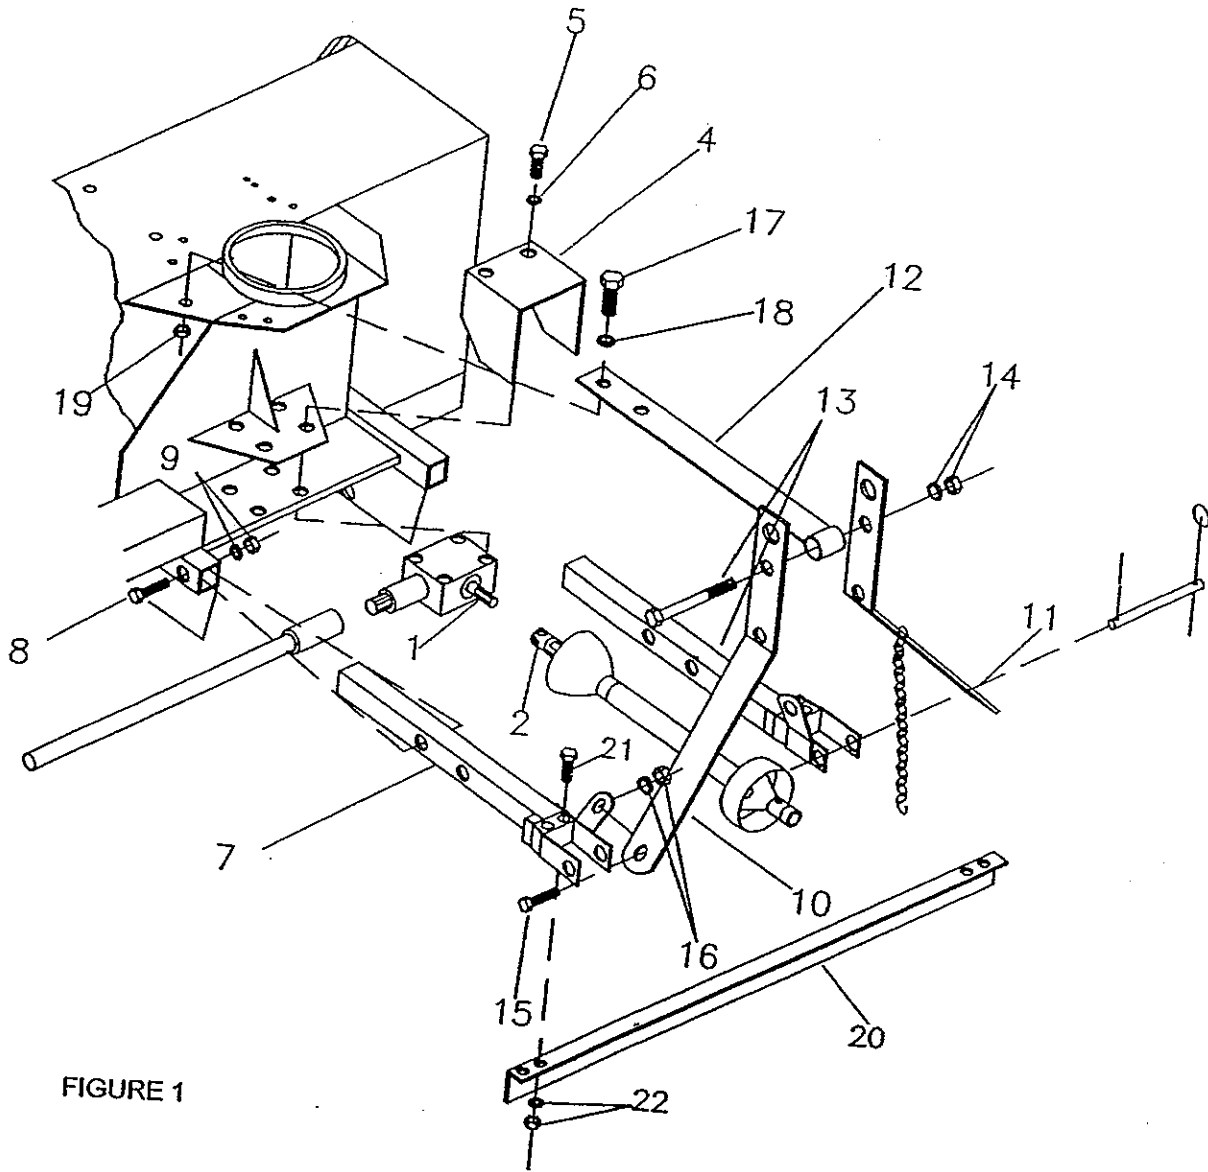

FIGURE 1
1. Remove paint from blower drive shaft (fig.1,item1) and grease driveline sliding surfaces and yoke.
2. Slide driveline yoke over drive shaft (fig.1,item 2) using the sliding action of the driveline. Make sure the driveline locking collar is well secured to the drive shaft.
1. Remove two bolts and lockwashers from rear of gear box (fig.1,item 5-6) and install driveline shield at that location (fig.1,item 4). Replace bolts and lockwashers.
2. Install the lower hitch tubes (fig.1,item 7) on blower using a 3/4" x 4" bolt (fig.1,item 8), lockwashers and nuts (fig.1,item 9).
3. Install the two hitch arms (fig.1,item 10-11) to the upper hitch (fig.1,item 12) through the top hole using a 3/4" x 4" bolts (fig.1,item 13), lockwashers and nuts (fig.1,item 14).
4. Attach each hitch arm (fig.1,item 10-11) inside the hitch tubes (fig.1,item 7) using two 3/4" x 2" bolts (fig.1,item 15), lockwashers and nuts (fig.1,item 16).
5. Attach upper hitch (fig.1,item 12) to blower using a 3/4" x 2" bolt (fig.1,item 17), lockwasher (fig.1,item 18) and nut (fig.1,item 19)(lockwasher on top side).
6. Install the driveline storage chain in the small hole in each hitch arm (fig.1,item 10-11) using two "S" hooks. Using pliers, close "S" hooks, leave one side of one "S" hook open (to attach and detach).
8. Install and bolt the flatbar (fig.1,item 20) on the end of the lower hitch tubes (fig.1,item 7) with four 1/2" x 4" hex. bolts (fig.1,item 21), lockwashers and nuts (fig.1,item 22).